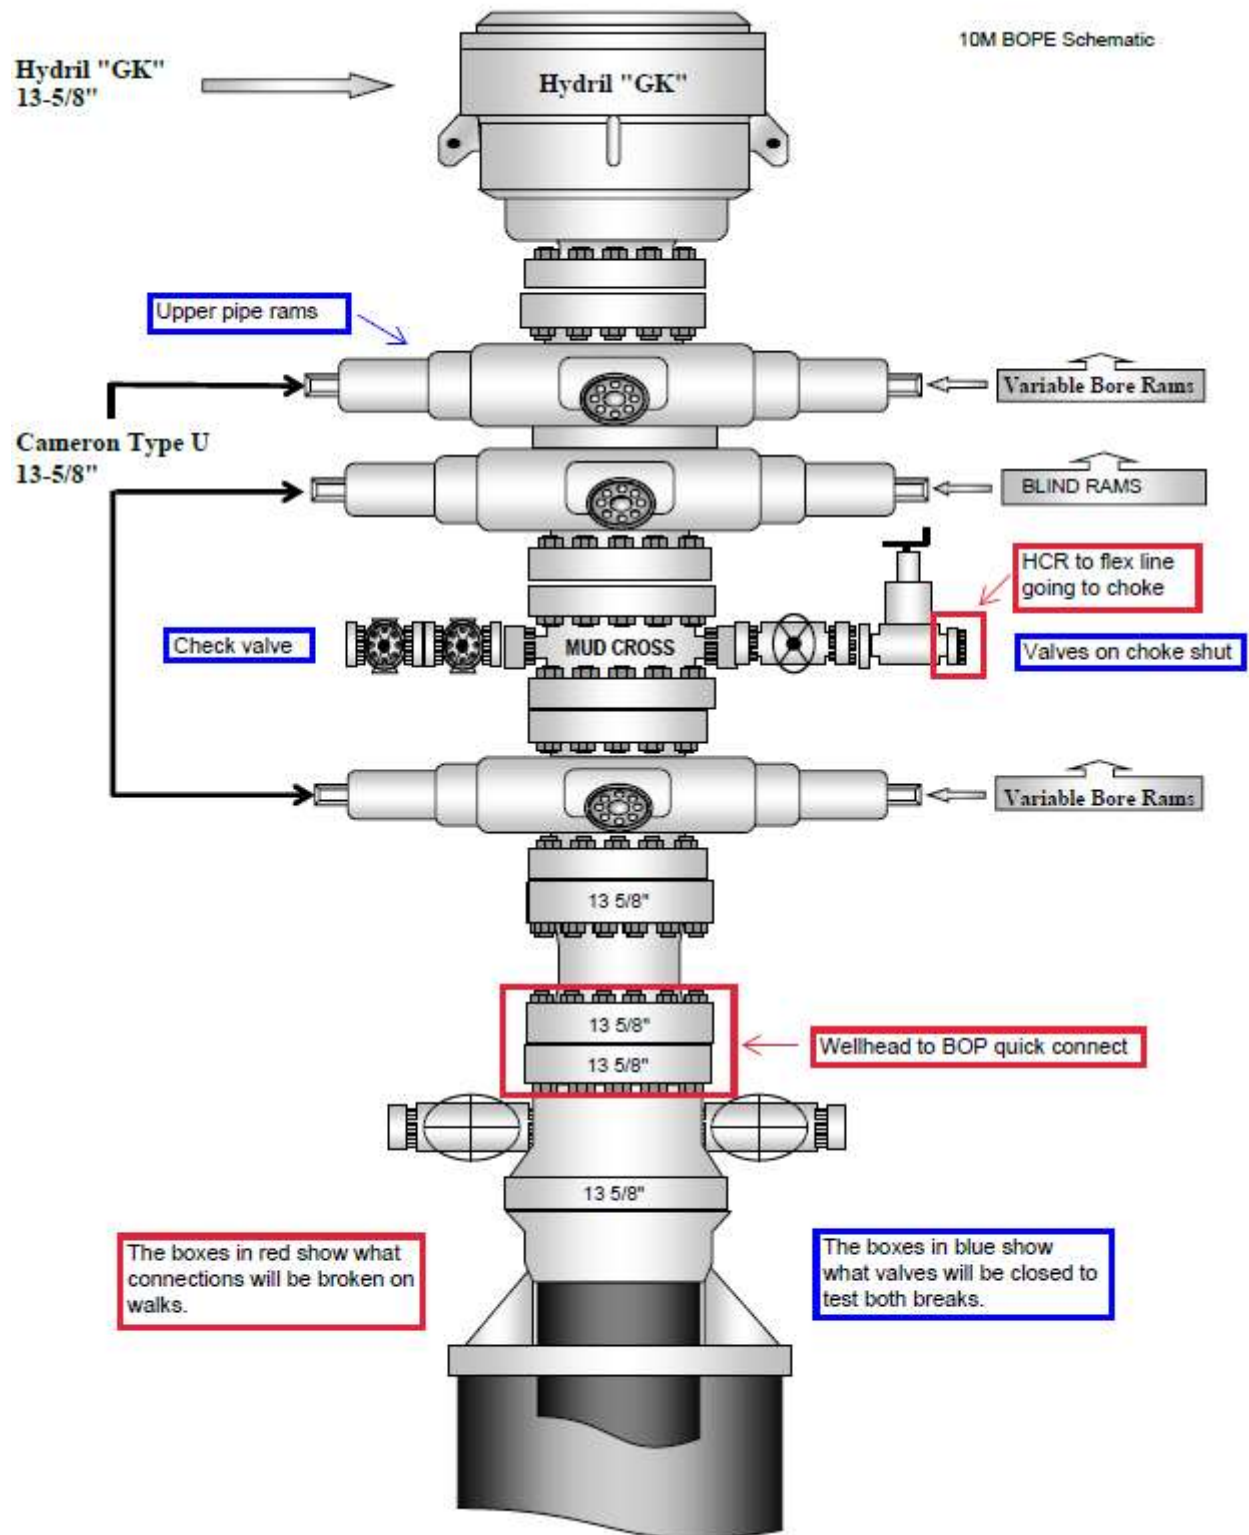

Figure 1. BOP diagram
2. After the well section is secured and the well is confirmed to be static, the BOP will be disconnected from the wellhead and walked with the rig to another well on the pad. Two breaks on the BOPE will be made (Fig. 1).
9. A test will then be conducted against the upper pipe rams and choke, testing both breaks (Fig. 1 & 2).